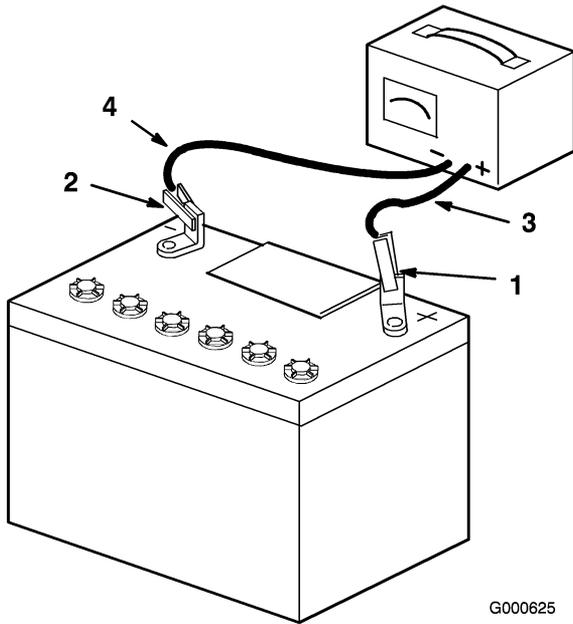

Figure 6
- When the battery is fully charged, unplug the charger from the electrical outlet, then disconnect the charger leads from the battery posts (Figure 6).